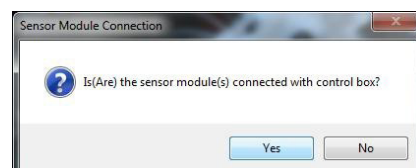

Figure 28. Select RS485 from the drop down menu
2. Next, click “Yes” button as in Figure 28.